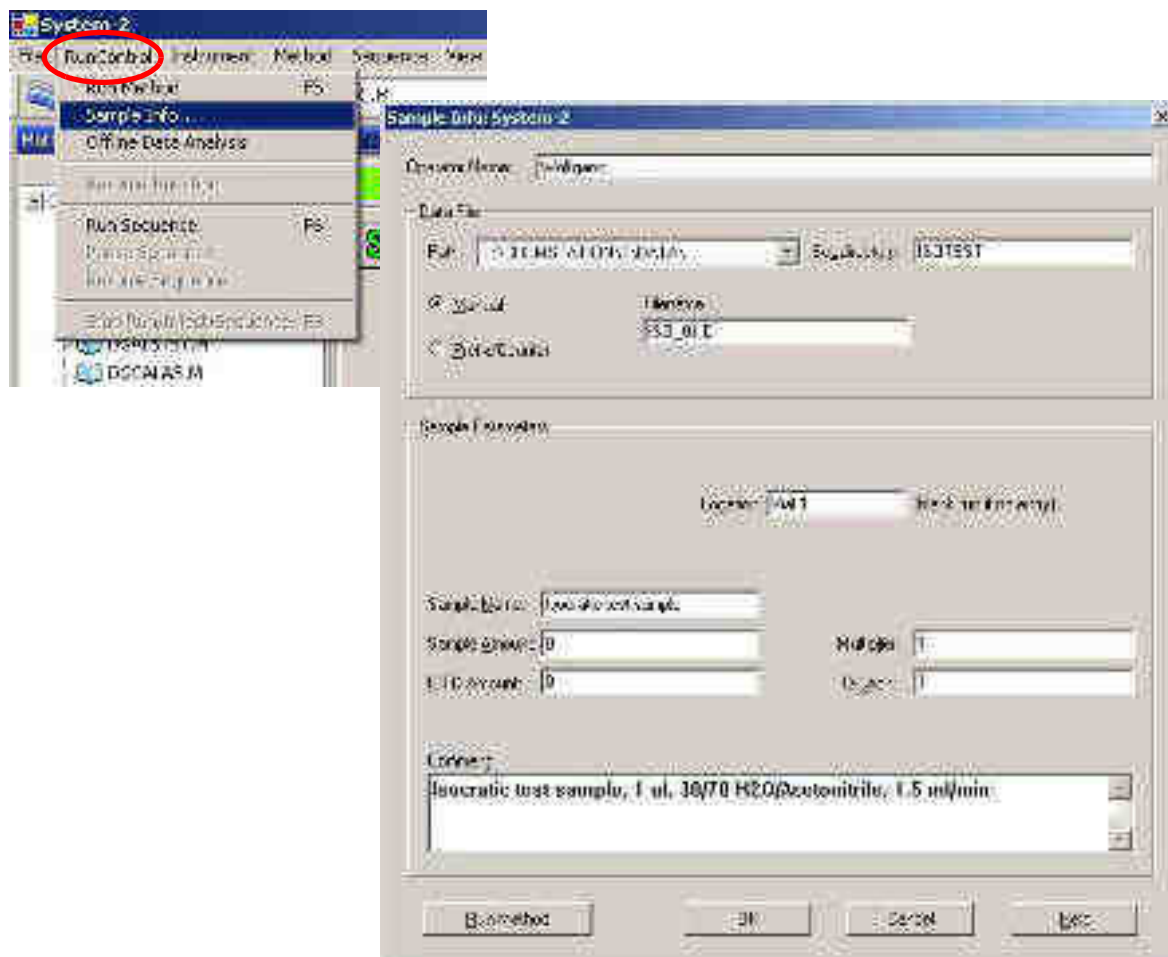

Figure 16 Sample Information
- 14 Select the menu item *RunControl -> Sample Info* and enter information about this application (Figure 16 on page 57). Press *OK* to leave this screen.